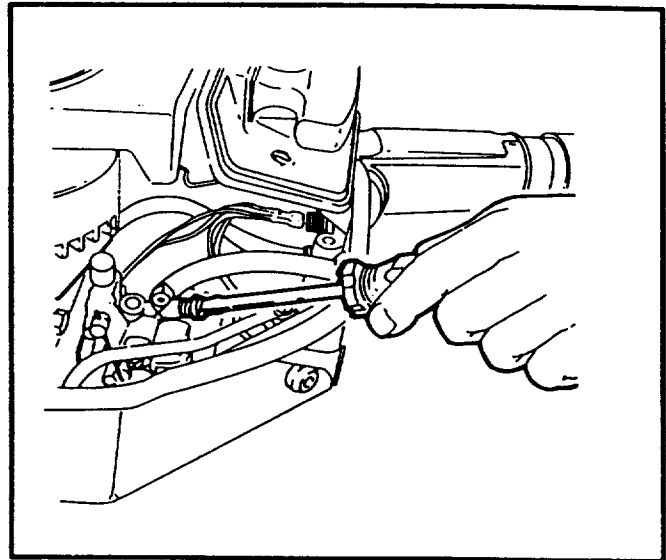

FIGURE 36
- Turn idle adjustment needle in, clockwise, until it seats lightly (Figure 36).
- Back needle out one (1) full turn.